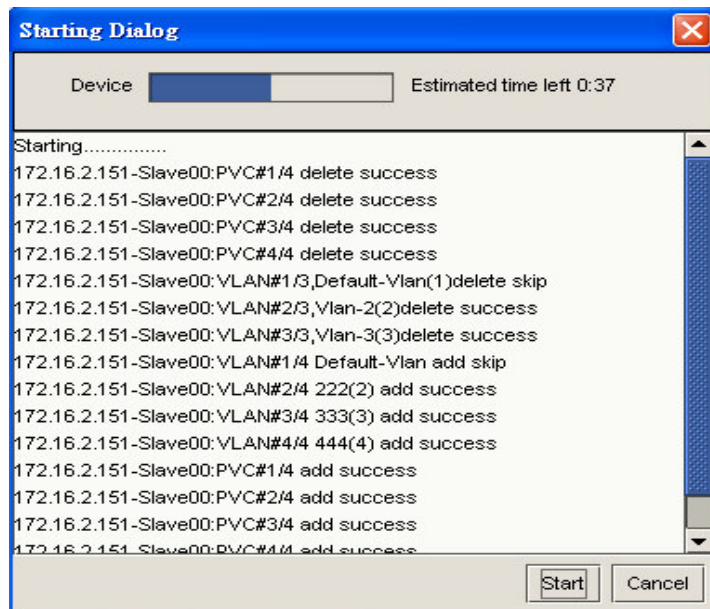

Figure 9-14. Deploy progress dialog
Step3: Push the start button to start the deploy the PVC profile, the result will display on the center of the dialog as below Figure 9-14: From the result: users may see the whole action log.